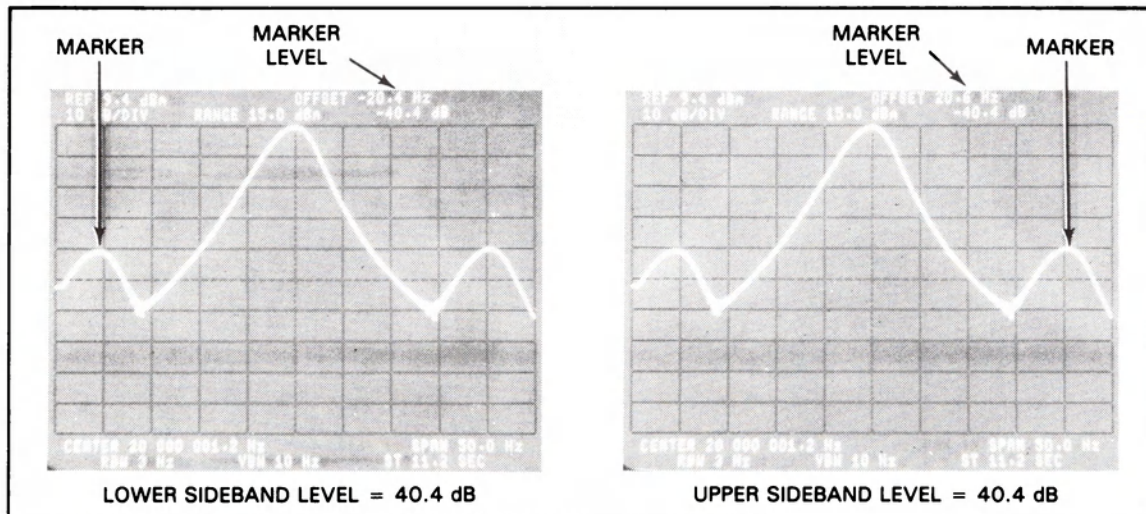

Figure 7-17. Upper and Lower PM Sideband Relative Levels
h. Measure the upper and lower sidebands and record their relative levels (dBc) on the Performance Test Record card for the 20 Hz, 2 Hz, and 0.2 Hz sideband frequencies. (See Figure 7-17)